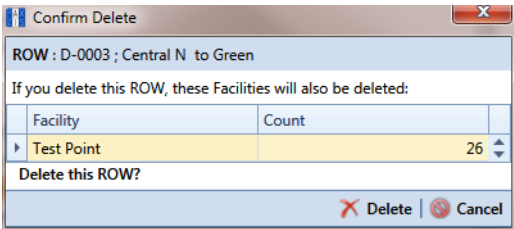

Figure 3-9. Confirm Delete
- 2 Click **Delete** to open the *Confirm Delete* dialog box (Figure 3-9, page 94). Or, right-click the selected pipeline in the hierarchy tree and select **Delete** in the shortcut menu to open the *Confirm Delete* dialog box.
NOTE: The *Confirm Delete* dialog box identifies the pipeline and number of associated facilities to be deleted in the *Count* column (Figure 3-9, page 94).